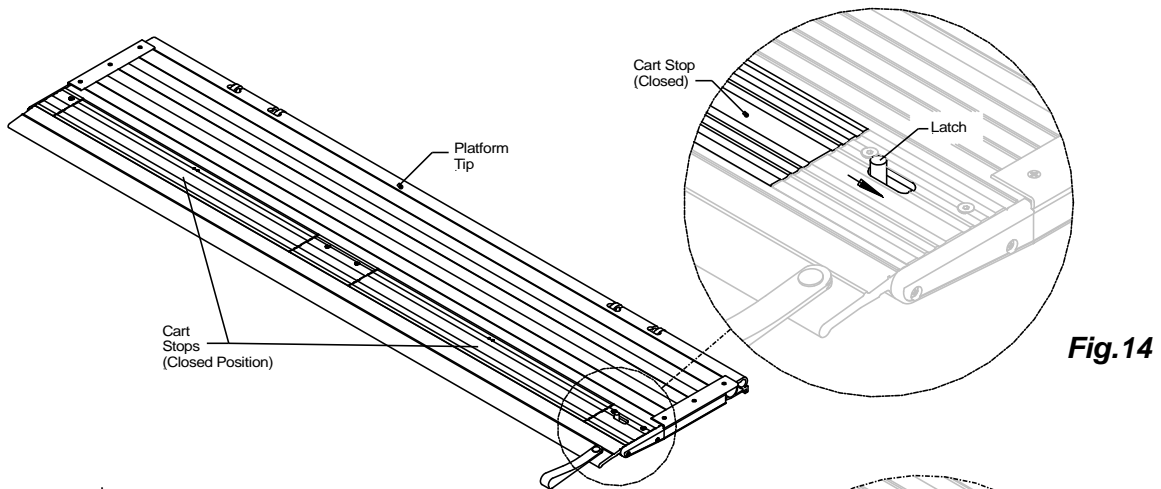
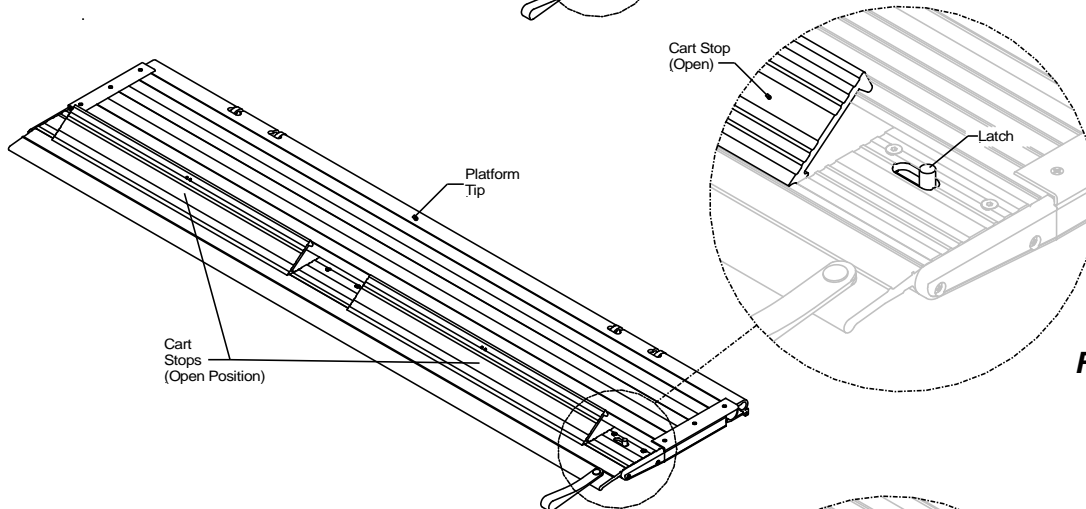

Fig.14
Fig.15
1. Push the cart stop latch out toward the curb side, **Fig.14**. Both cart stops will spring open automatically once the latch has been moved from its original position, **Fig.15**.